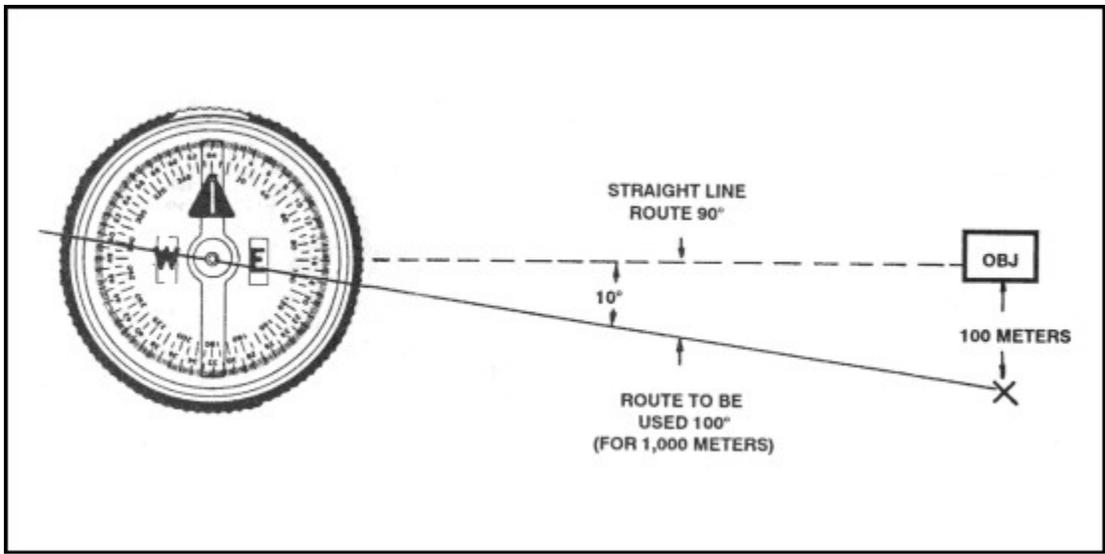

Figure 9-6. Deliberate offset to the objective.
(2) Bypassing an unexpected obstacle at night is a fairly simple matter. To make a 90° turn to the right, hold the compass in the centerhold technique; turn until the center of the luminous letter E is under the luminous line (*do not* move the bezel ring). To make a 90° turn to the left, turn until the center of the luminous letter W is under the luminous line. This does not require changing the compass setting (bezel ring), and it ensures accurate 90° turns.
e. **Offset.** A deliberate offset is a planned magnetic deviation to the right or left of an azimuth to an objective. Use it when the objective is located along or in the vicinity of a linear feature such as a road or stream. Because of errors in the compass or in map reading, the linear feature may be reached without knowing whether the objective lies to the right or left. A deliberate offset by a known number of degrees in a known direction compensates for possible errors and ensures that upon reaching the linear feature, the user knows whether to go right or left to reach the objective. Ten degrees is an adequate offset for most tactical uses. Each degree offset moves the course about 18 meters to the right or left for each 1,000 meters traveled. For example, in Figure 9-6, the number of degrees offset is 10. If the distance traveled to "x" in 1,000 meters, then "x" is located about 180 meters to the right of the objective.